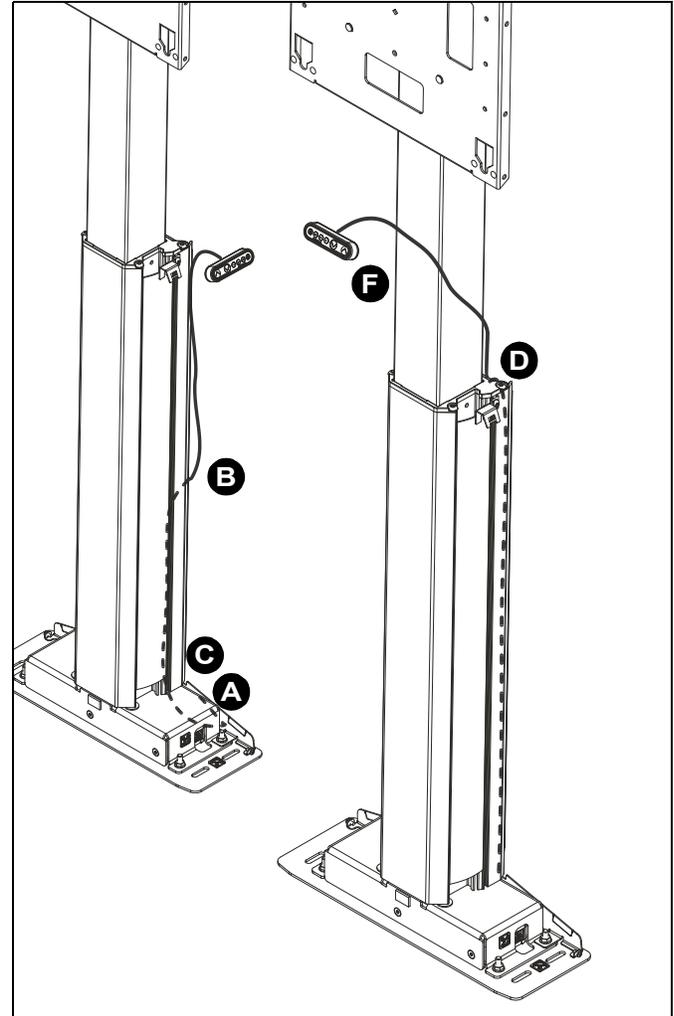
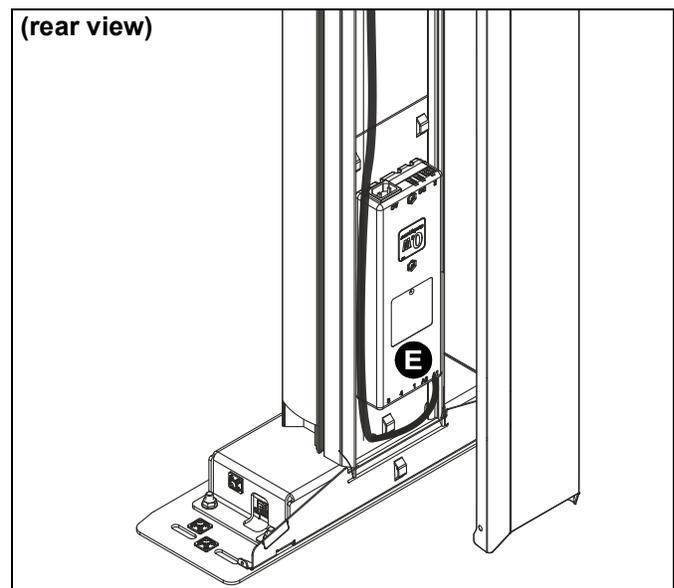

Figure 11
Figure 12
19. (Optional) Relocate control pad to the front center of display if desired following these steps. (See Figure 11) and (See Figure 12)